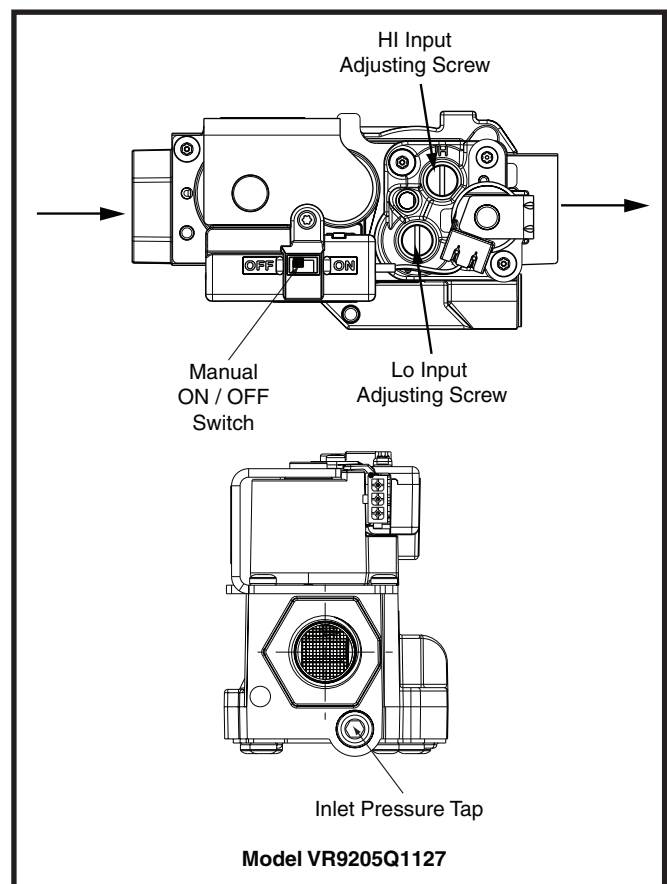

Figure 22. Gas Valve
3. Move the manual ON/OFF switch to the OFF position. See Figure 22 \(page 25\).